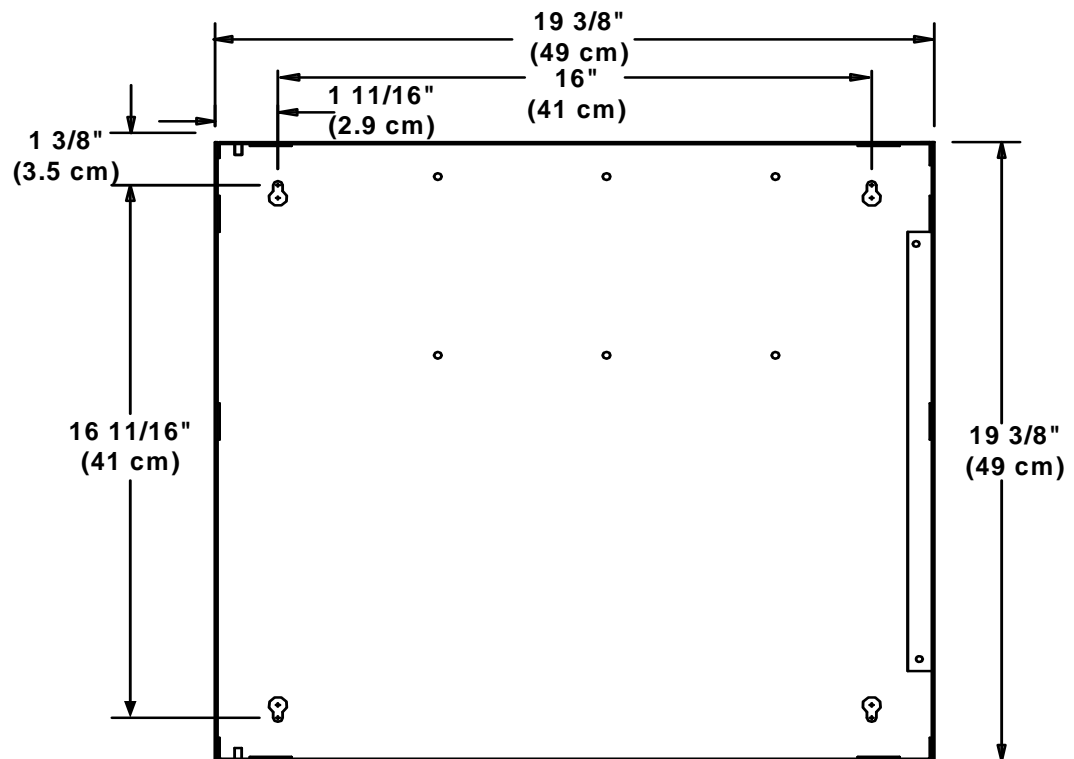

Figure 2.4.1 NetSOLO Broadband Backbox
1. Prepare the mounting site by pre-drilling for fasteners as needed using the dimensions shown in Figure 2.4.1. Mounting hardware should be #10 to 1/4" in diameter.